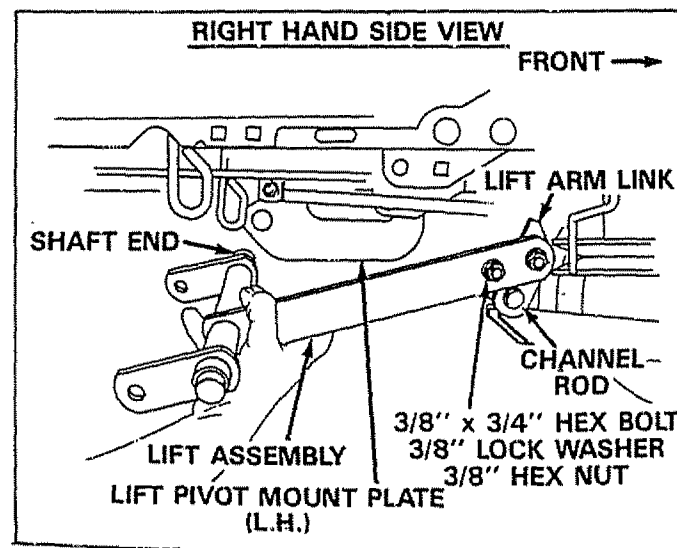
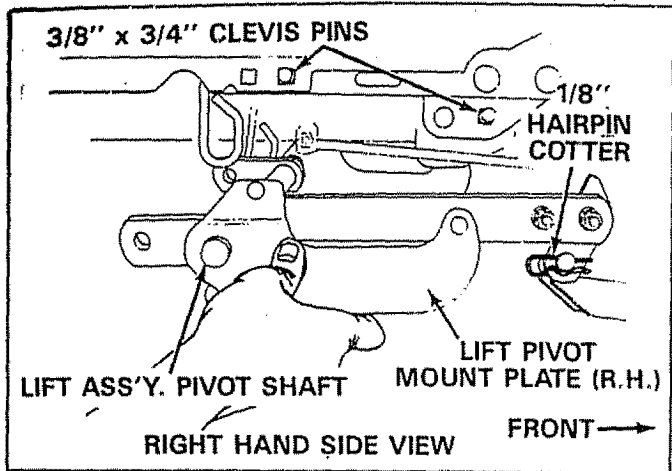

FIGURE 13
FIGURE 14
11. Assemble one 3/8" x 3/4" hex bolt from inside, through second hole from end of long arm. Secure with one 3/8" lock washer and one 3/8" hex nut on outside. This bolt is used as a limit stop for the lift arm link. See figure 13.
13. Assemble lift arm link (lift assembly) over channel rod and insert pivot shaft end (from R.H. side of tractor) into hole in L.H. lift pivot mount plate. See figure 13. Secure lift arm link to channel rod with 1/8" (large) hairpin cotter. See figure 14.
Assemble right hand lift pivot plate, (stamped R.H.), over right hand end of lift assembly pivot shaft and connect to outside of frame (see figure 14) using two 3/8" x 3/4" clevis pins from inside. Secure with two 3/32" (small) hairpin cotters and two 1/8" (large) hairpin cotters assembled to each end of pivot shaft. See figure 14.